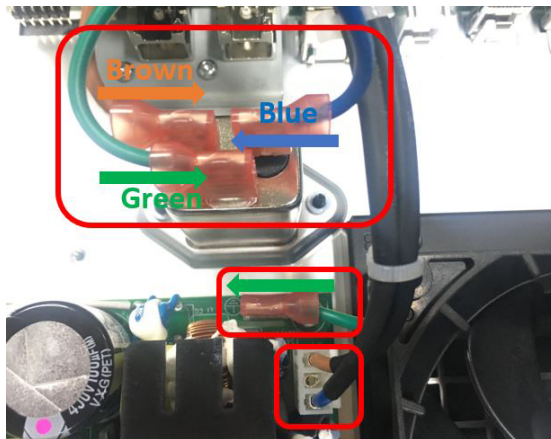

Figure 3: AC line filter cable connections
- d. Connect the line trigger cable to the AC line filter (See Figure 3: AC line filter cable connections on page 22).